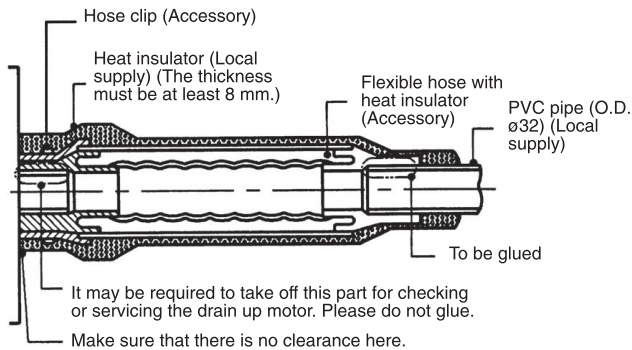

Fig. 3-8
- Tighten the hose clamps so their locking nuts face upward. (Fig. 3-8)